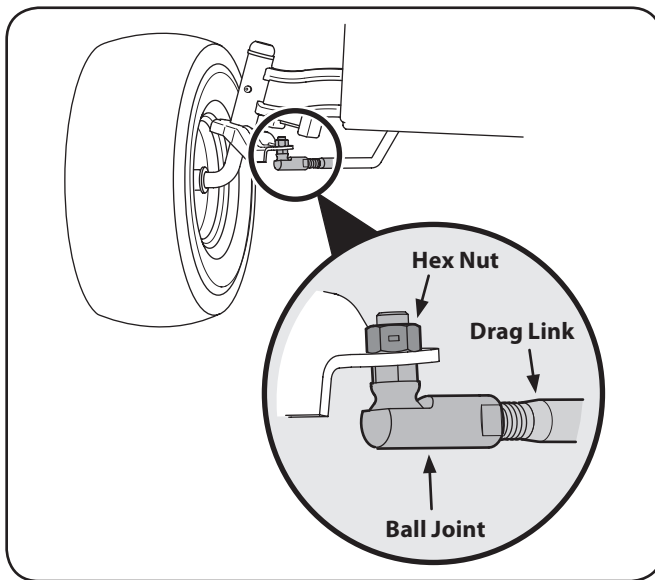

Figure 6-6
1. Remove the hex nut on the top of ball joint. See Fig. 6-6.